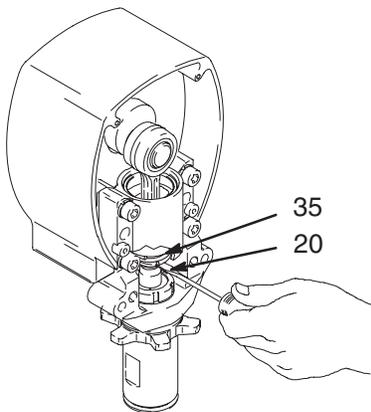

Fig. 14
3. Fig. 14. Use screwdriver to push retaining spring (35) up and pin (20) out.